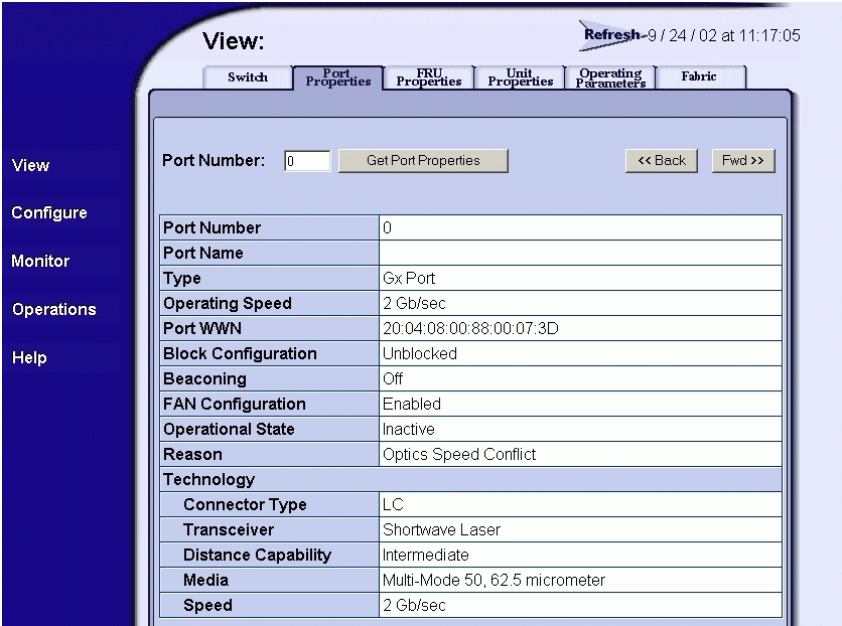

Figure 3-3 View Panel (Port Properties Tab)
- a. At the *View* panel, click the *Port Properties* tab. The *View* panel (*Port Properties* tab) displays with port **0** highlighted (Figure 3-3).